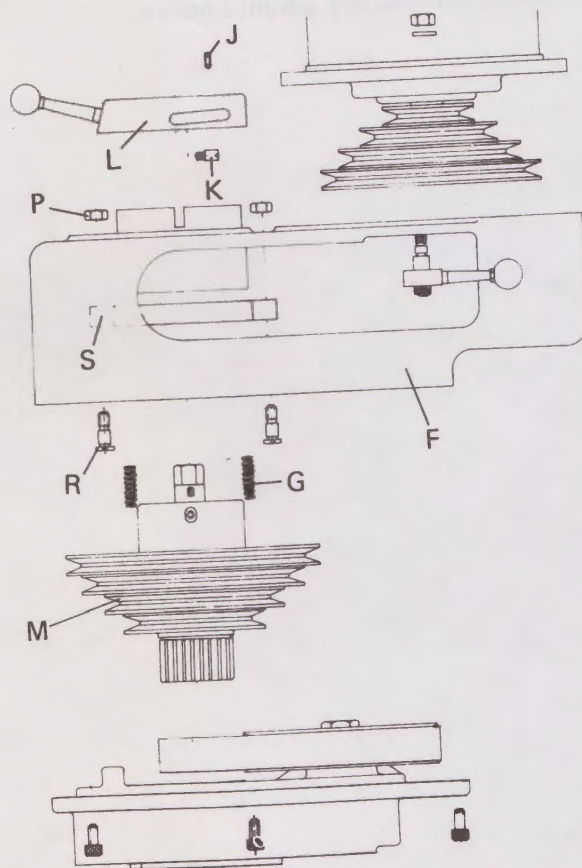

Figure 44
(2) Replacement of Brake Block of LC 1½ TM Miller:
- It is the same with the replacement step a to g of V-Belt and timing belt to take out the belt housing (F).
- Take off two M3 setting screws (J), two convex ring screws (K) and convex ring (L). Separate the belt housing (F) and front belt pulley set (M) and take out the four pressure springs (G).
- Remove the nuts (P) of three brake block and take off the bolts (R) as shown in Figure 44. Then replace the brake block (S).